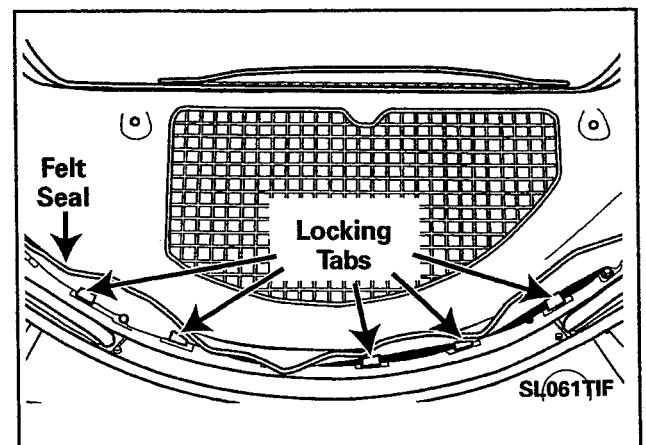

Figure 2-78
3. Remove the old felt seal by prying the locking tabs up with a flat blade screwdriver, (Figure 2-78).